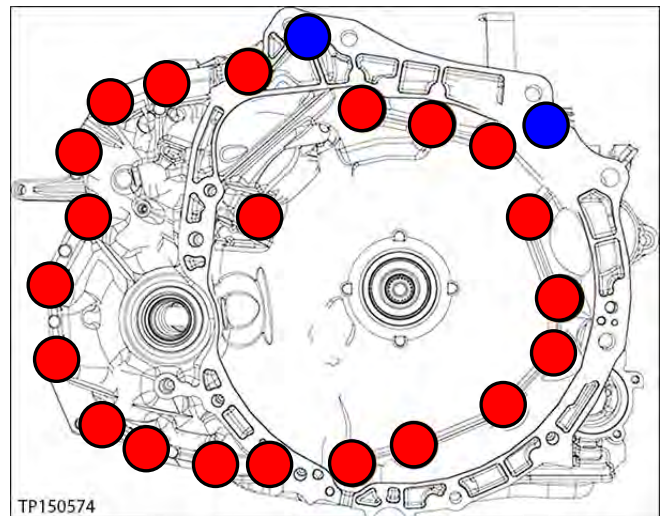

Figure 2
5. Remove all 23 converter housing mounting bolts (see Figure 2).